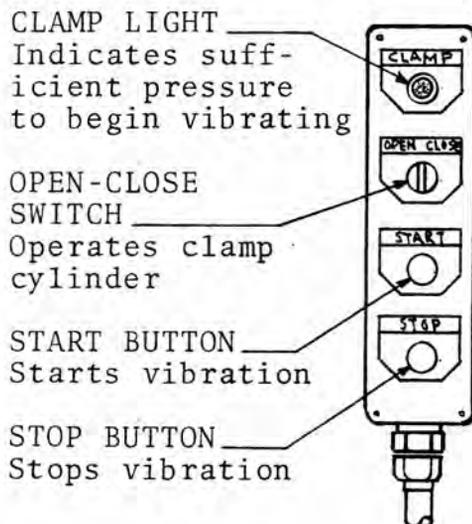

Fig.5
2. The pendant (Fig. 5) has two control buttons, a two-way switch and an indicator light.